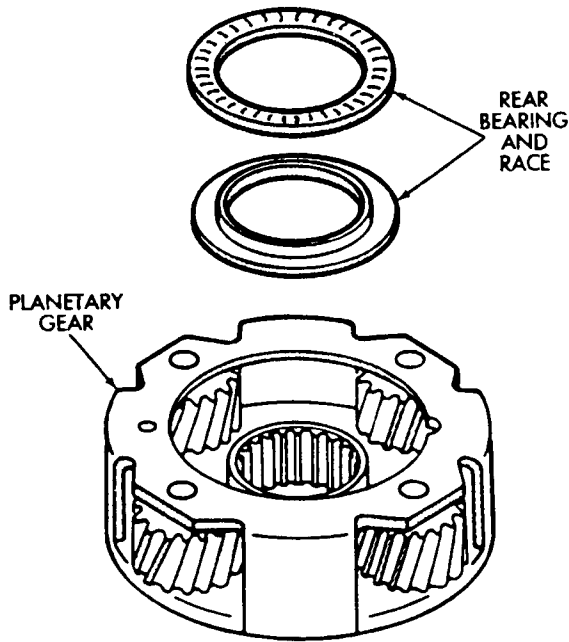

Fig. 2 Installing Front Planetary Rear Bearing and Race
(3) Install rear race and bearing in gear (Fig. 2).
(1) Hold sun gear and turn second brake hub clockwise and counterclockwise (Fig. 2). Hub should rotate freely clockwise, but lock when turned counterclockwise. Replace one-way clutch and hub if it does not operate properly.